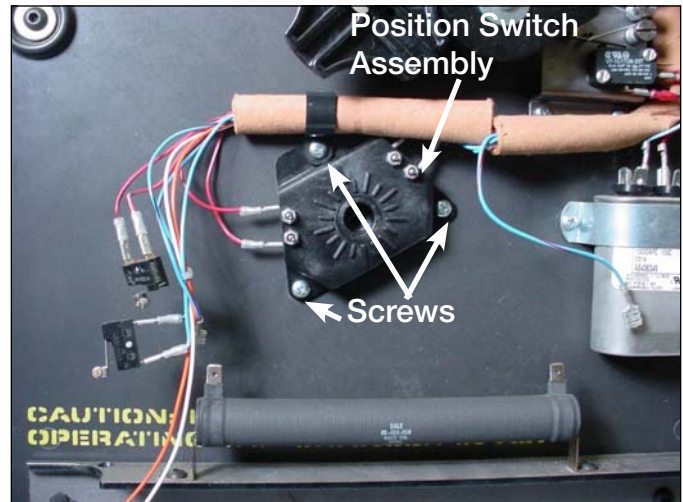

Figure 29.
8. Fasten the tap position switch assembly to the front of the drive panel assembly with three pan head Phillip screws. See Figure 29.
9. Fasten the tap position switch assembly to the front of the drive panel assembly with three pan head Phillip screws. See Figure 29.